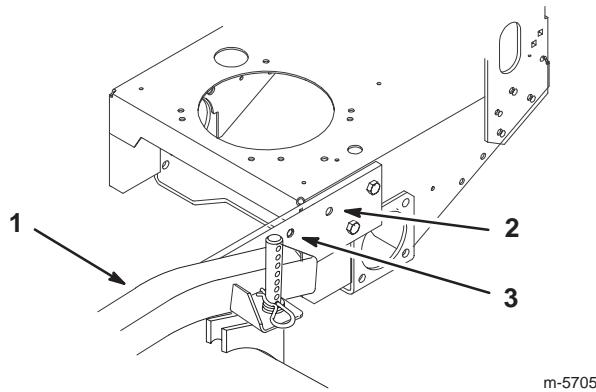

Figure 13
3. Align the battery holder so the back hole is aligned with the carrier frame hole (Fig. 13 and 14).
4. Using the battery holder as a template, mark and drill a 17/32 inch hole (Fig. 13).